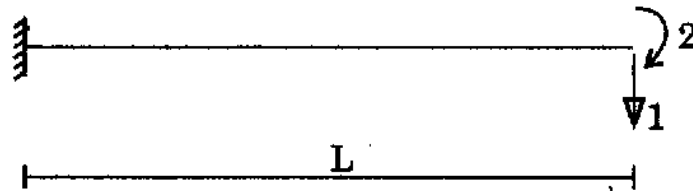

Figure 8
- (b) Derive the flexibility matrix of the plane beam shown in Figure 8 with respect to the degrees of freedom shown. Take  $EI = \text{constant}$ . 15